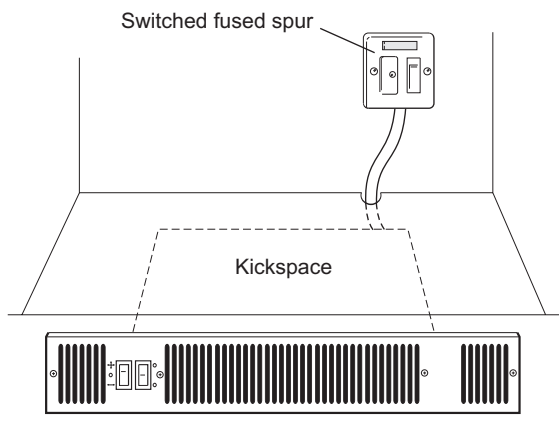

Fig. 2.2 - Electrical supply
- 2.2 A fused electrical spur with a switch having 3 mm separation on all poles must be provided in an easily accessible position adjacent to the Kickspace, as shown in Fig. 2.2.